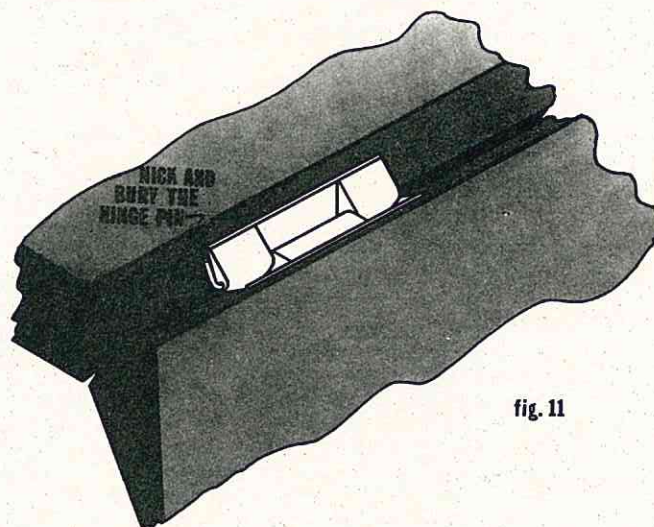

fig. 11
STEP 13. Reassemble. Lastly, make a small knife cut alongside the end of the female hinge part, bury the wire in it and cover it with a drop of cement. This makes it easy to remove at a future time. (Fig. 11)